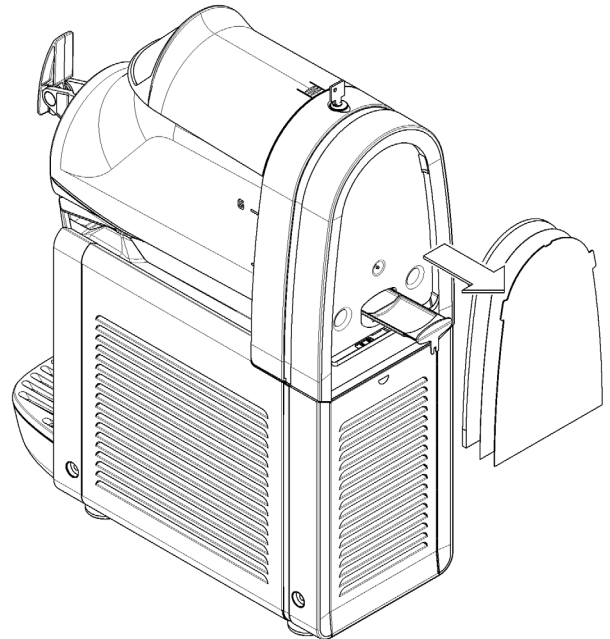

figure 22
- 2** Remove any traces of product from the inside of the evaporator by removing the tray as shown (see figure 22).